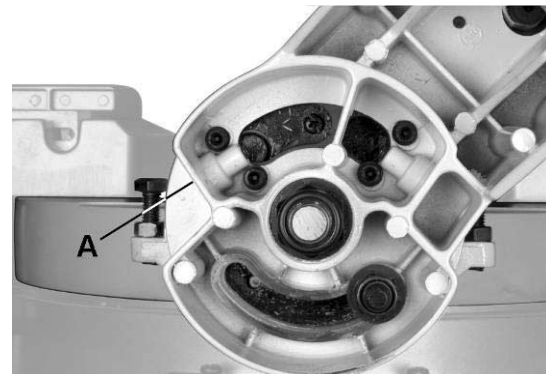

Figure 14
5. To adjust, turn the *setscrew* (A, Fig. 14) in or out with a 6mm hex wrench until the blade is 33.9° to the table.